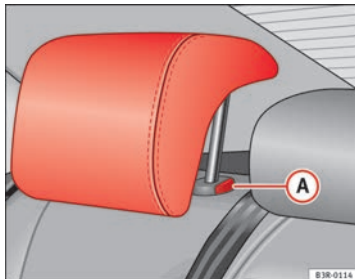

Fig. 5 Outer rear seats:
- Press button **A** ⇒ Fig. 5 and lower the head restraint.
- Press button **A** ⇒ Fig. 5 and pull out the head restraint.